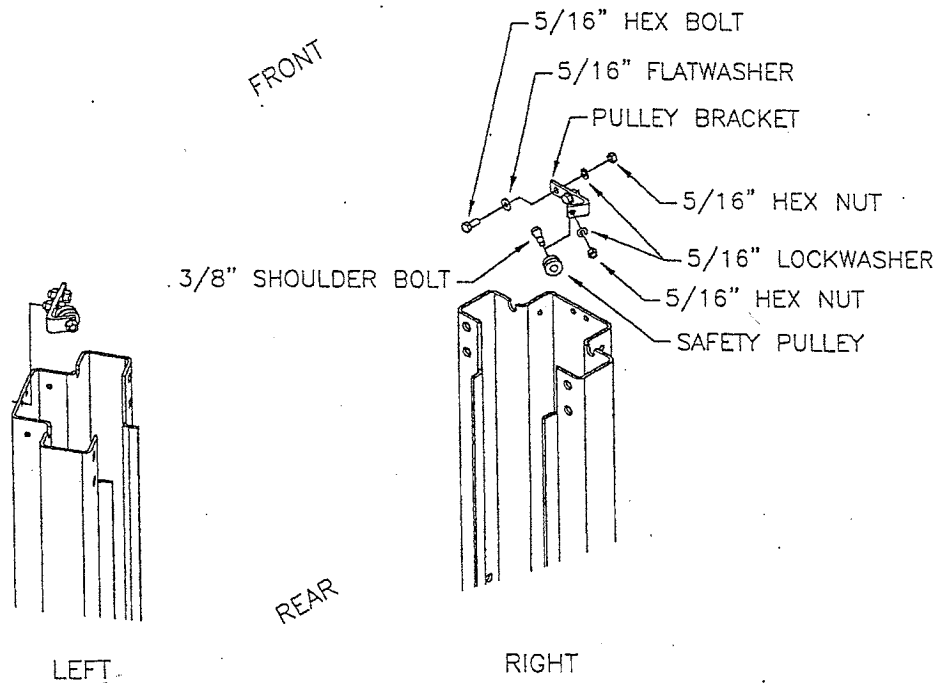

Figure 9 – Safety Release Cable Bracket
1. Install the safety release bracket on each tower as shown in Figure 9. Attach the safety pulley to the bracket using the 3/8" x 5/8" LG. shoulder bolt, 5/16" lockwasher and 5/16" hex nut. Attach the pulley bracket, complete with pulley, to the tower using the 5/16" x 3/4" LG. hex bolt, 5/16" flat washer, 5/16" lockwasher, and 5/16" hex nut.